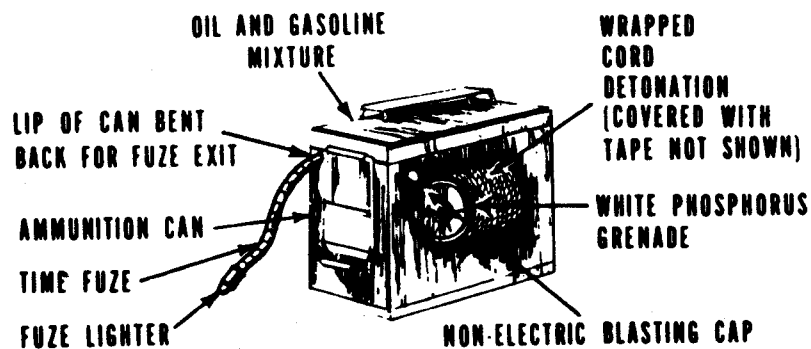

Figure 12
(2) Eagle Fireball (Figure 12):